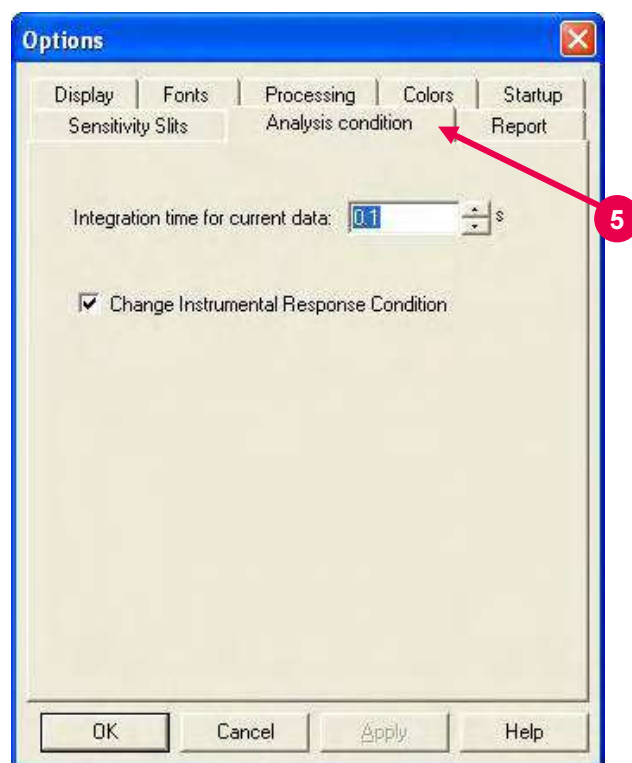

Fig. 7-54
- (4) The integration time for data reading is usually set at 0.1 s. To change the integration time, select the Options command from the Tool menu. Then select the Analysis condition tab (refer to ⑤ in Fig. 7-54). A window as in Fig. 7-54 will appear to enable setting change.